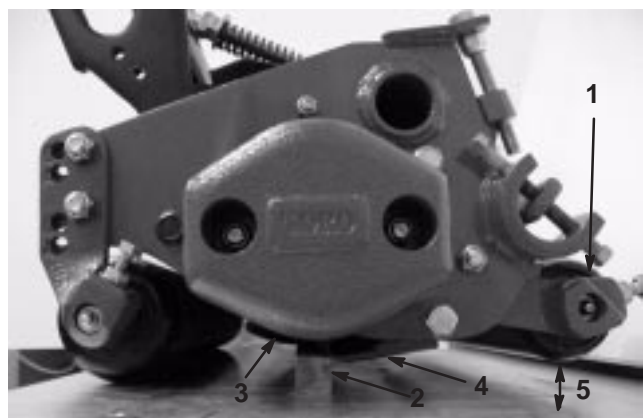

Figure 12
1. Place a 1/2 in. or thicker plate under the reel blades and against the cutting edge of the bedknife (Fig. 12). The rear roller should not contact surface.